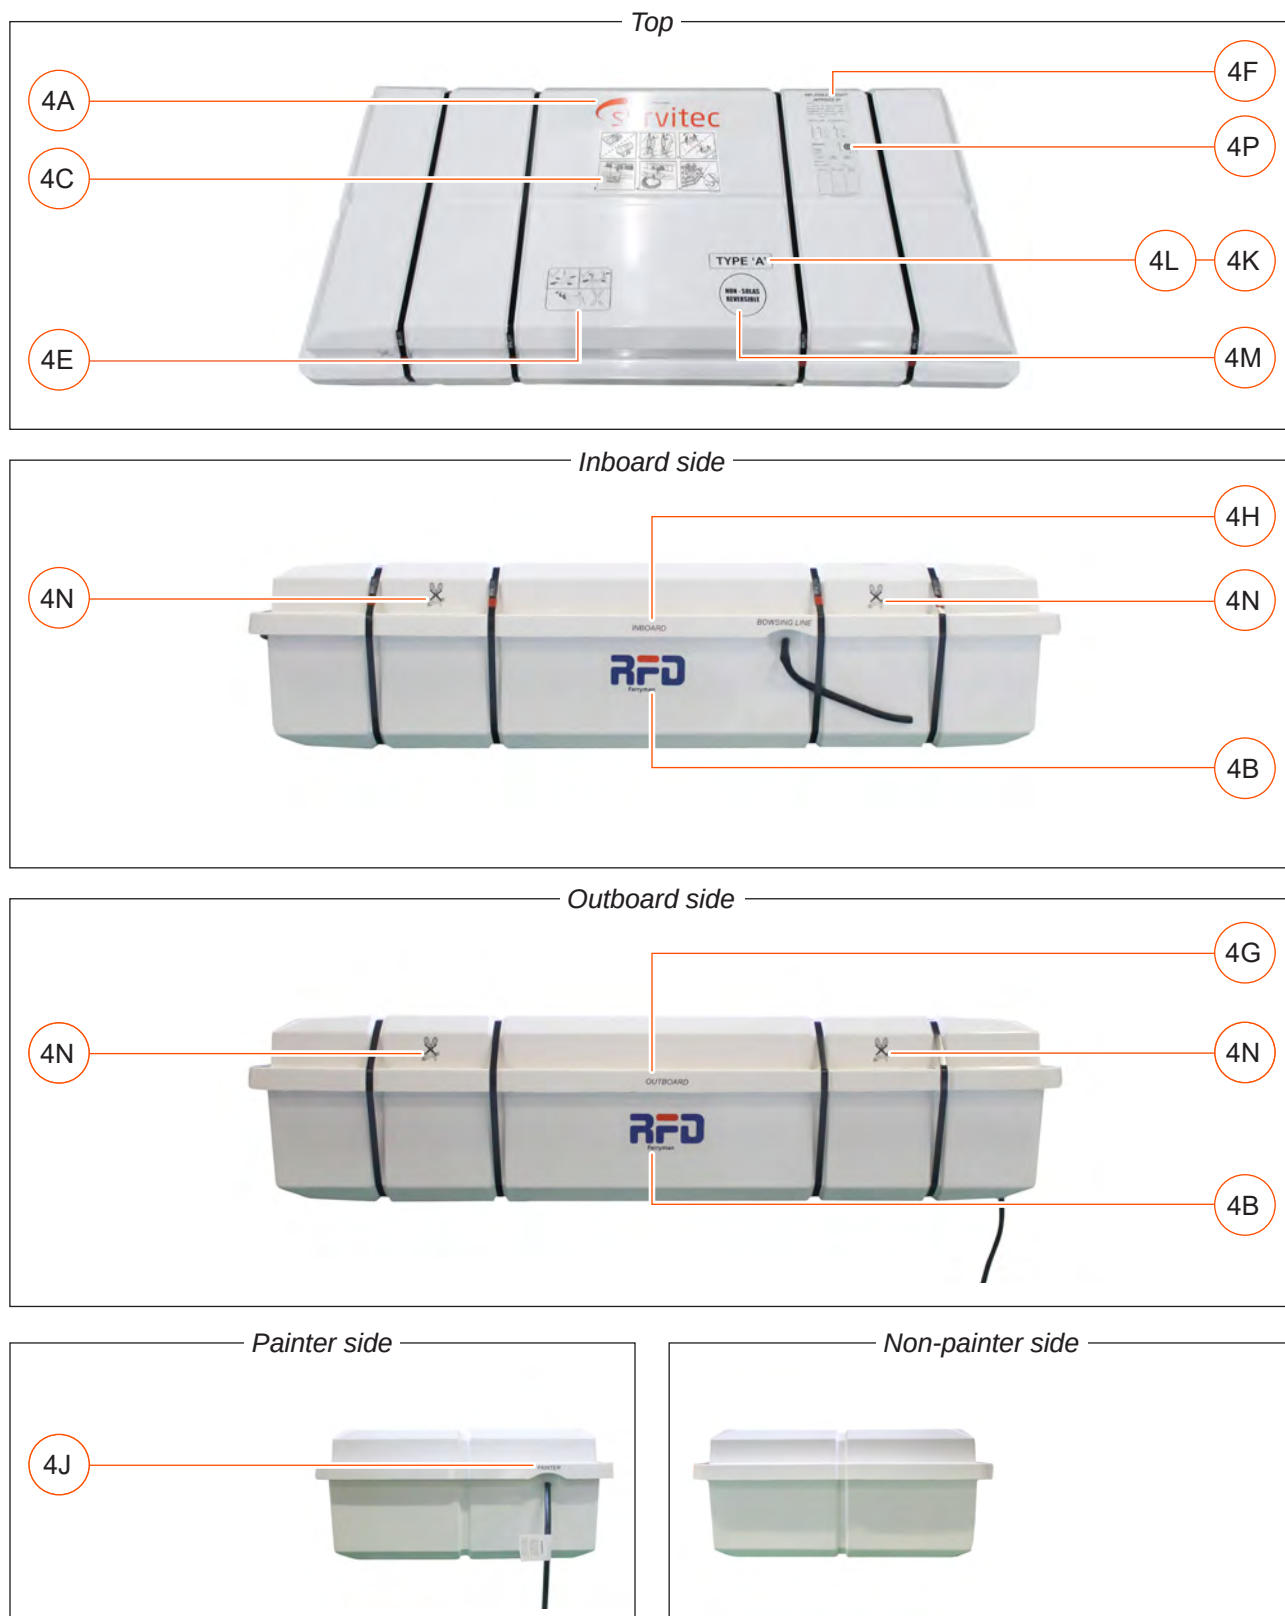

Figure 36
- Mk 16 size 4. Refer to **Figure 36** for label positions.